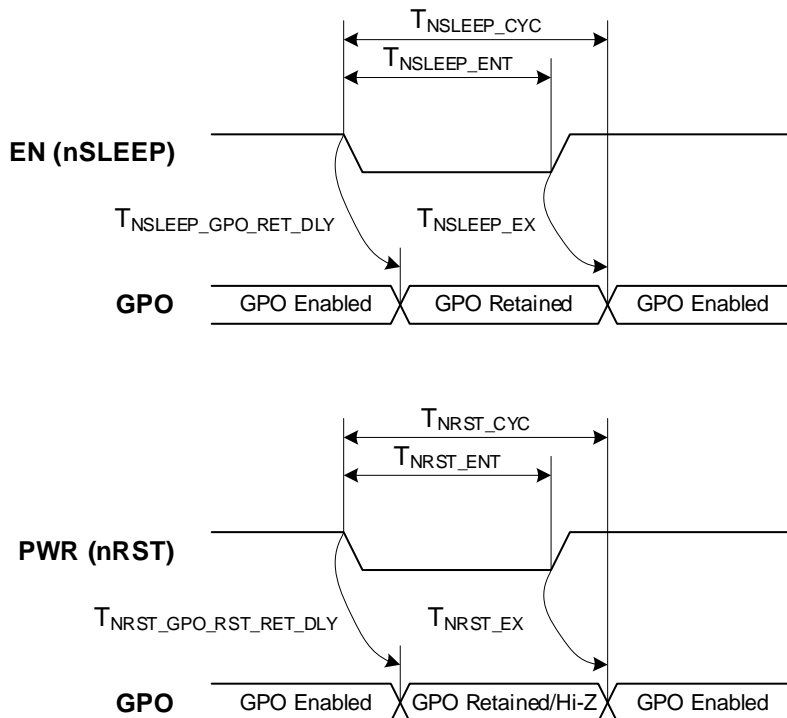

Figure 37. Device On/Off State Cycle Timing Diagram (PWR/EN Pin)
Figure 37 depicts general behaviour during $nRST$ (PWR) and $nSLEEP$ (EN) assertion.